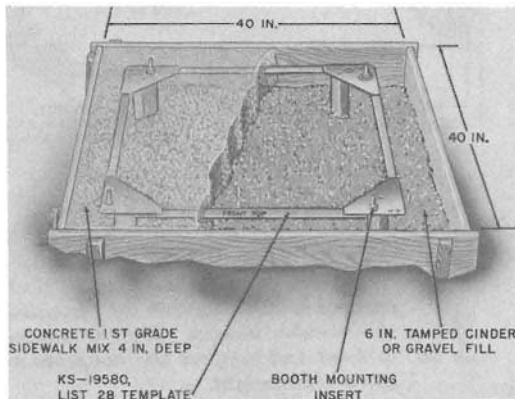

Fig. 14—Concrete Base Preparation with KS-19580, List 28 Template
**3.03** When necessary to provide a concrete base, a KS-19580, List 28 foundation template (Fig. 14) is used. Install the template as follows:
- Prepare a form 40 inches square with an inside depth of 10 inches (Fig. 14).
- Position the template in the form on wooden blocks so that the top of four mounting inserts will be flush with concrete base as shown in Fig. 14.